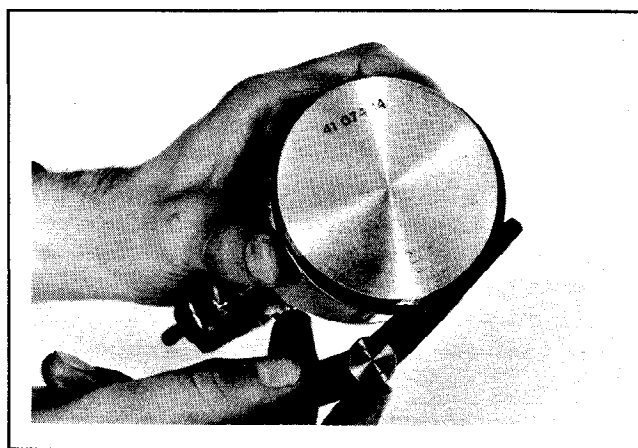

Figure 11-12. Measuring Piston Ring Side Clearance.
4. After installing the new compression (top and middle) rings on piston, check piston-to-ring side clearance. Maximum recommended side clearance is .006". If side clearance is greater than .006", a new piston must be used. Refer to Figure 11-12.